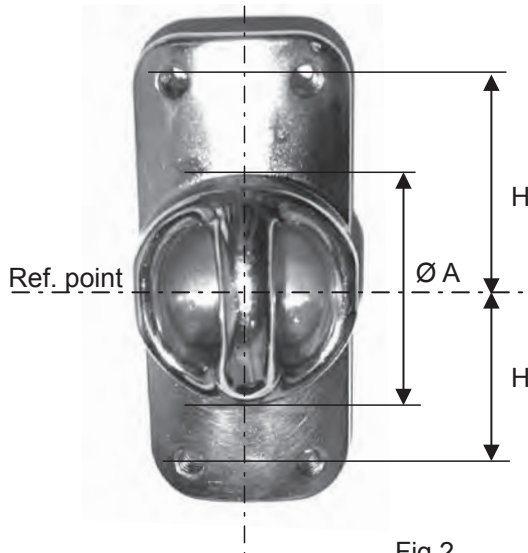

Fig 2.
3. Drill Ø 4,9 mm at the mark and then use hole saw Ø A, see Fig 2, Table 2.
3. Drill Ø 4,9 mm at the mark and then use hole saw Ø A, see Fig 2, Table 1.
5. Mark for MFT M8 screws, see fig 2. and table 1.